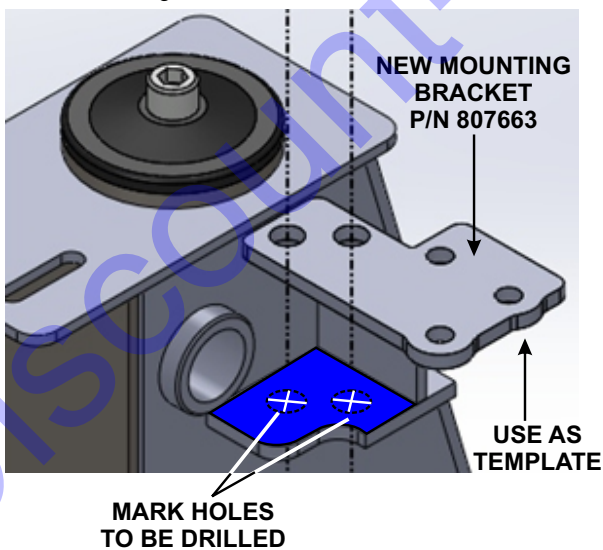

Figure 6. Marking Holes
1. Using the supplied new mounting bracket P/N 807663 as a template, mark the hole location to be drilled as shown in Figure 6.